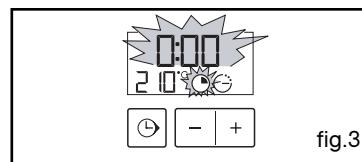

fig.3
- the cooking time indicator and 0:00 both flash (fig.3).